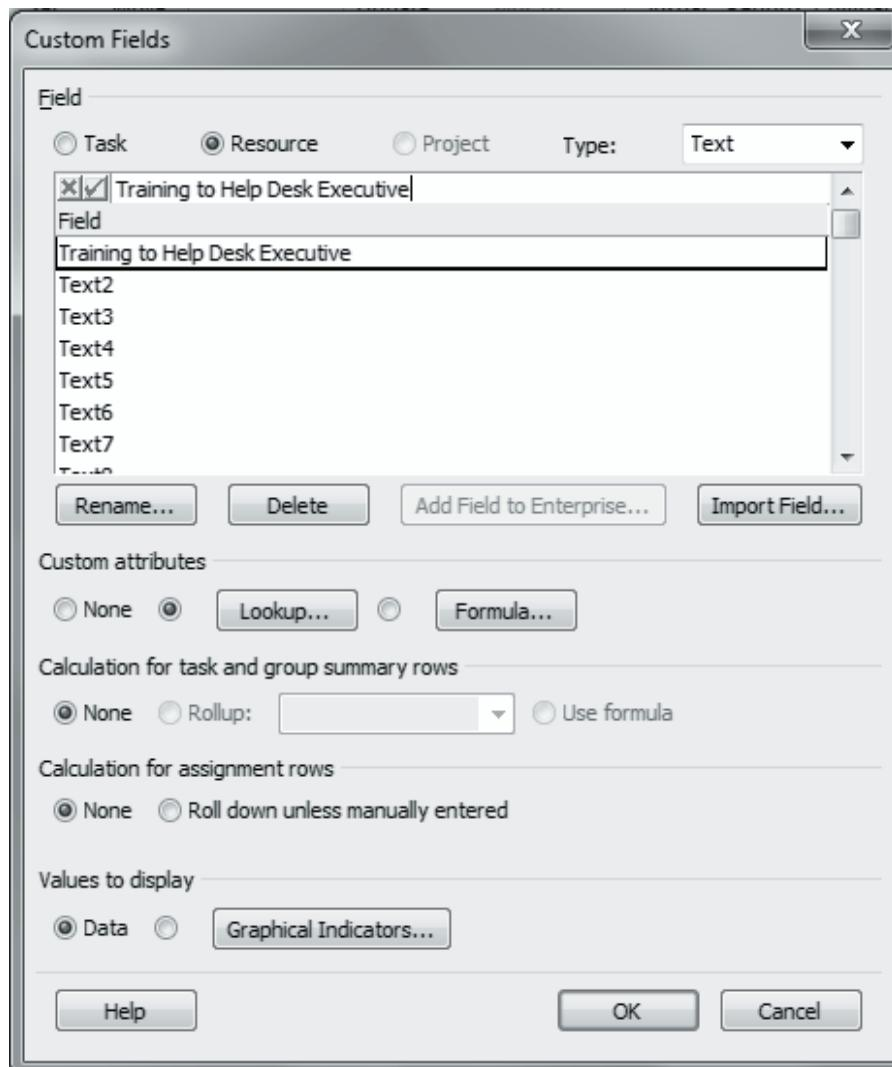

Figure 7.18: Creating Custom Fields Using Lookup Table
1. On the **Project** tab, click the **Custom Fields** button to display the **Custom Fields** dialog box, as shown in figure 7.18.
Figure 7.18 display creating custom field in lookup tables.